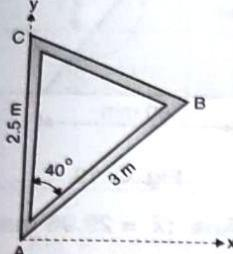

Fig. Q. 1
- 1 Locate the centre of gravity of the bent shown in Fig. Q. 1.